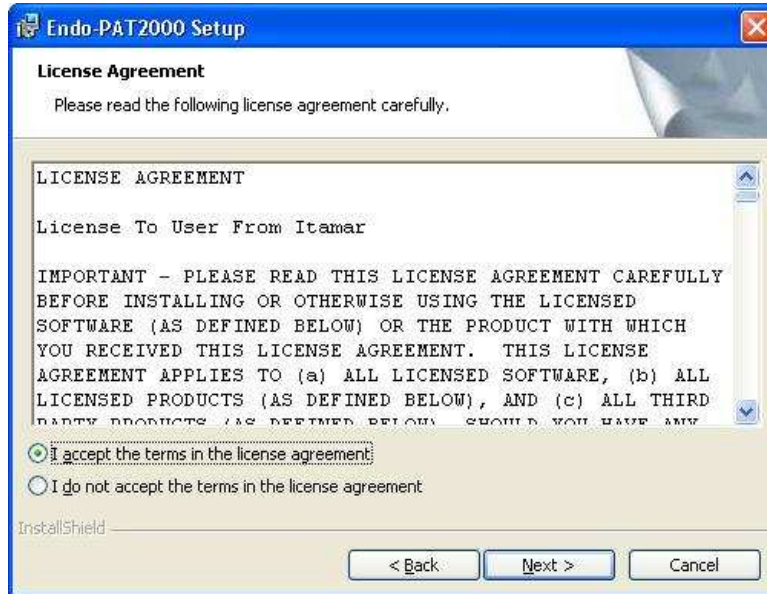

Figure 5 - License agreement
4. Read the license agreement and select the “I accept” option to agree to its terms and continue with the installation by pressing “next” (Figure 5). Click “I do not accept” if you do not accept the terms of the agreement and wish to abort the installation.